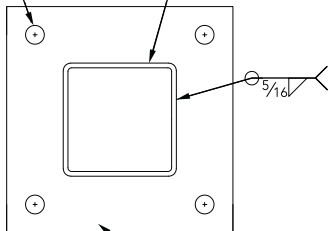

Fig. 1 10x10x½ PLATE (A36)
- 3 What issues, if any, can you find in the base plate detail found in Figure 1 to resist axial compression only (not including design specifics related to connection demand)?
(4) ¾ DIA.